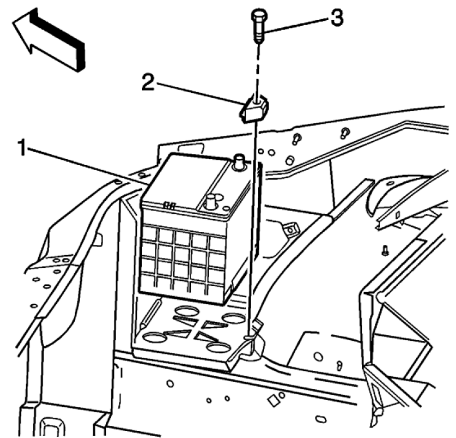

Fig. 4 Battery hold down
12. Remove battery hold down retainer bolt (3), **Fig. 4**.
13. Remove battery hold down retainer (2), **Fig. 4**.
14. Remove battery (1), **Fig. 4**.
1. Install battery (1) and ensure that battery is positioned properly in battery tray, **Fig. 4**.